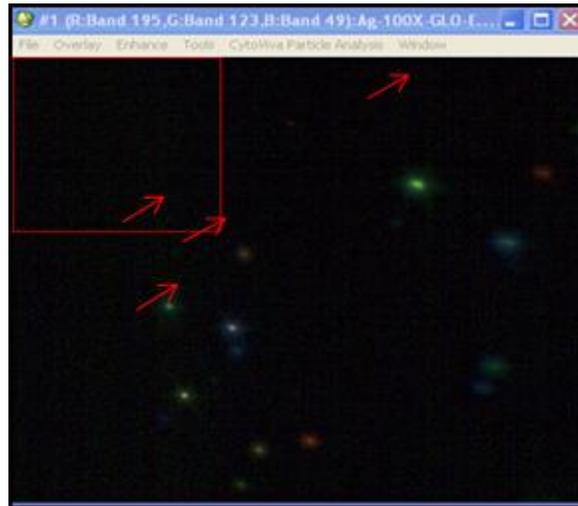
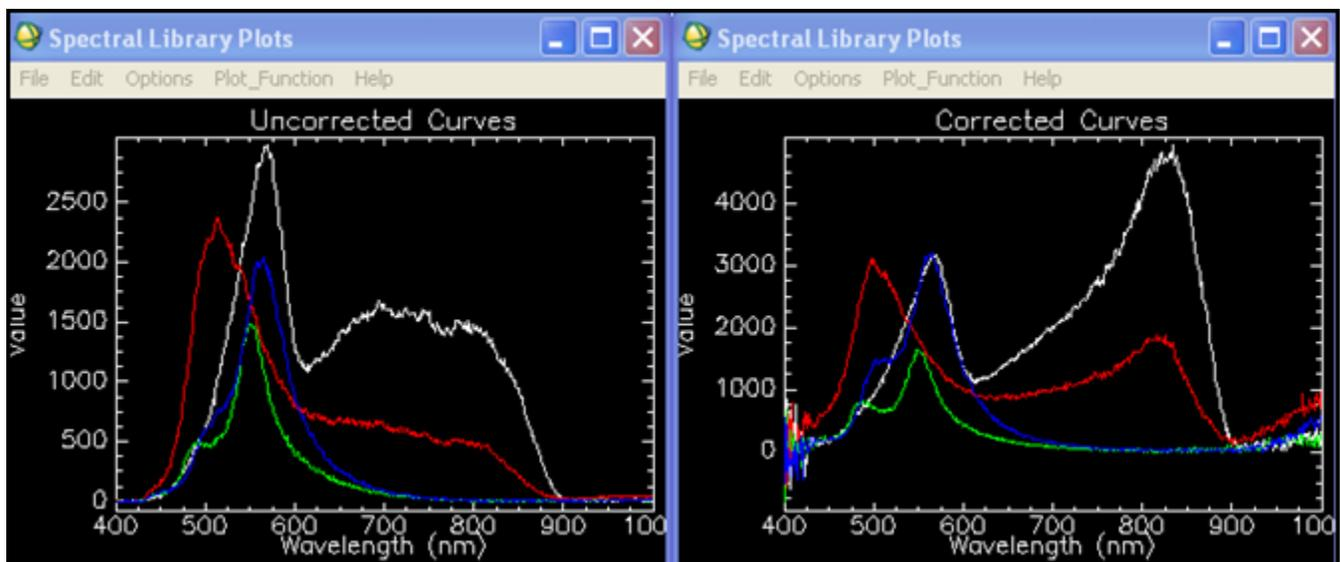

Figure 7.1d. Main image window with four nanoparticles of interest
Figure 7.1e. Left: Uncorrected Spectra of Particles, Right: Corrected Spectra Using Lamp Normalizing Feature
- For the example with silver nanoparticles (Figure 7.1d), the input image is shown (arrows point at nanoparticles with spectra of interest). Figure 7.1e shows the uncorrected spectra from the nanoparticles on the left, and corrected spectra of the same particles on the right.